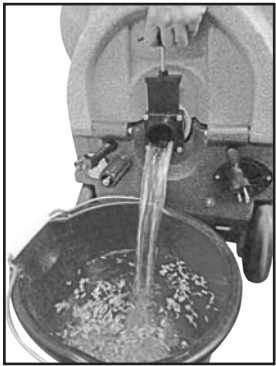

Figure 3
- Drain any remaining water from the recovery tank and dispose of in a sanitary drain. **CAUTION:** use separate buckets to drain and fill the tank. Even the smallest debris can cause issues (Figure 3)